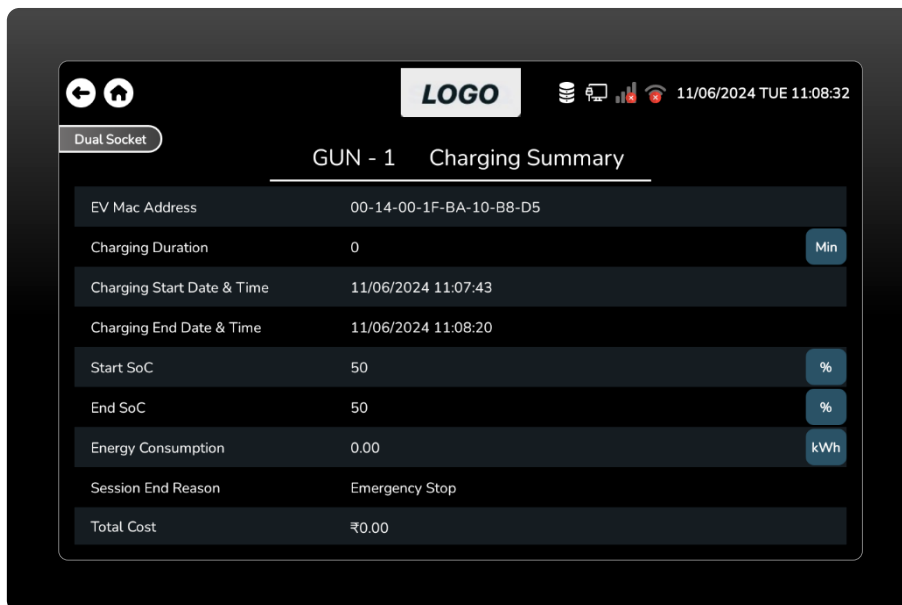

Figure 98 GUN-1 Charging Summary Screen.
- This is a GUN-1 charging summary screen where the user can view charging summary information such as the EV mac address, charging duration, charging start and finish dates and times, start and end SoC, energy consumption, session end reason, and total cost. (Figure 98)